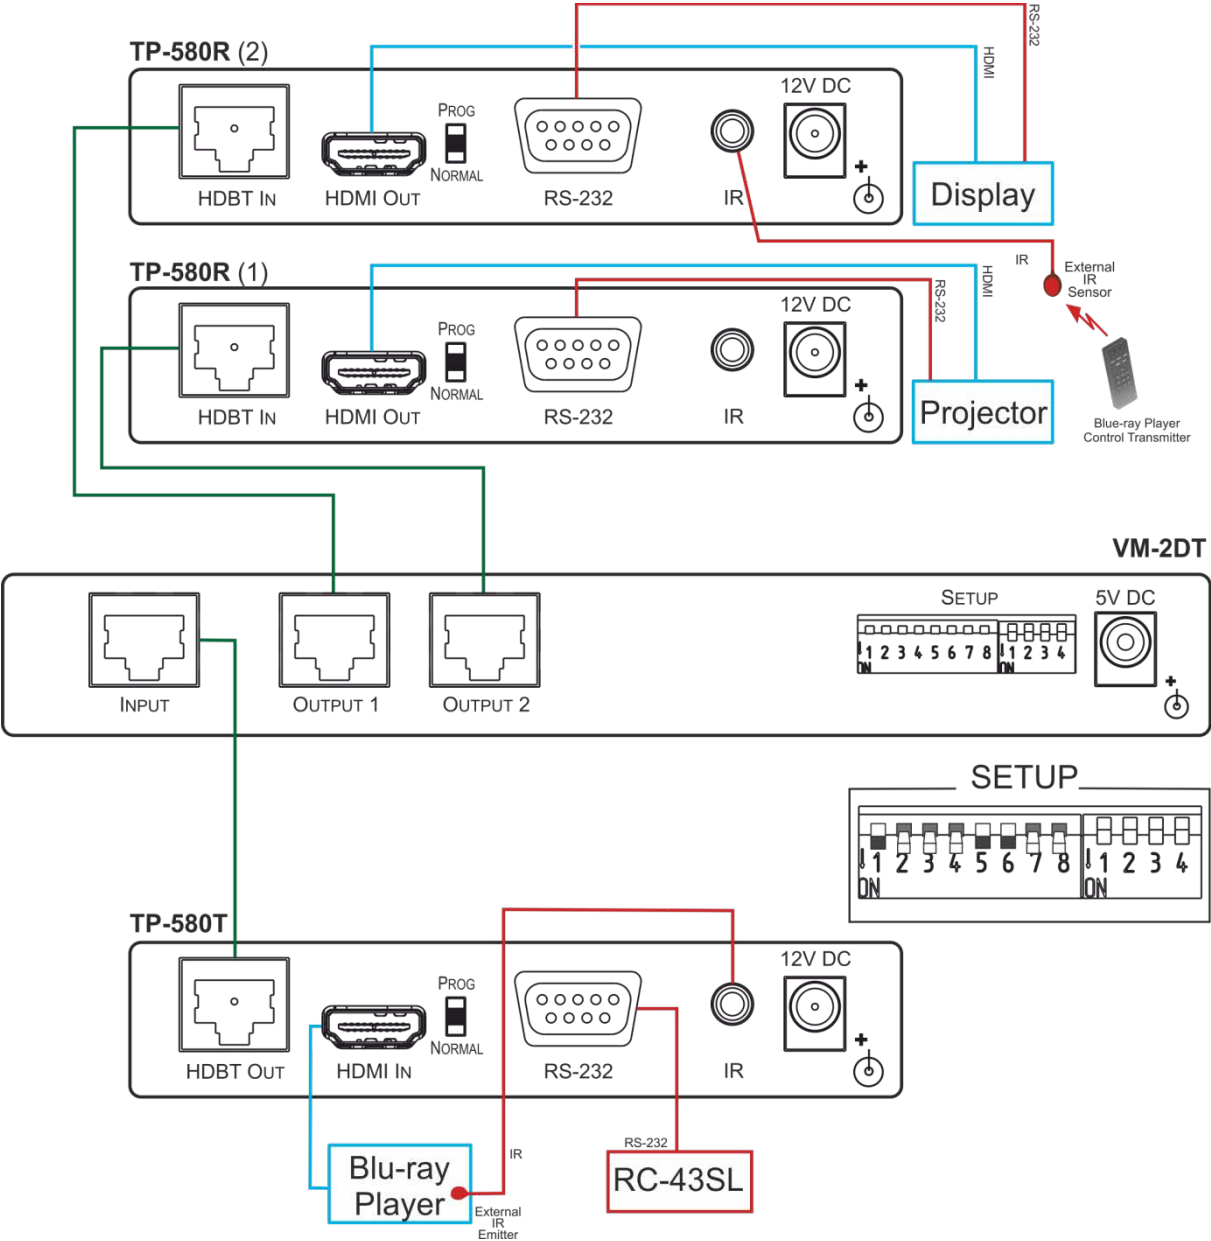

Figure 5: IR/RS-232 Routing Example
The example in Figure 5 shows the **VM-2DT** connected to two **TP-580R** devices. The table below summarizes the types of connections:
In the example in Figure 5, an IR emitter cable is connected from **TP-580T** to the Blu-ray player and an IR sensor cable is connected to the **TP-580R (2)** receiver for receiving IR remote signals. This setup lets you remotely control the Blu-ray player via the **TP-580R (2)** receiver device, using the Blu-ray player IR remote control transmitter.
In the example in Figure 5, the Kramer **RC-43SL** control keypad is used to control AV devices that are connected to both **TP-580R (1)** and **TP-580R (2)**. **RC-43SL** is connected to the **TP-580T** RS-232 port. The RS-232 ports on **TP-580R (1)** and **TP-580R (2)** are connected to a projector and display, respectively. This type of setup enables you to control the projector and display via the **RC-43SL**.